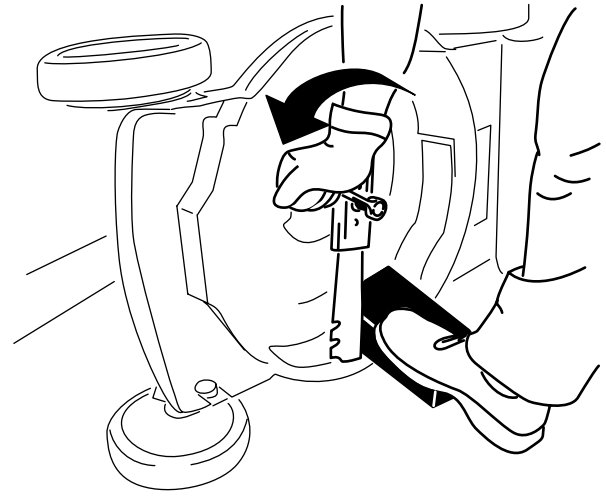

Figure 20
2. Use a block of wood to hold the blade steady (Figure 20).
3. Remove the blade bolt and blade; save the blade bolt (Figure 20).